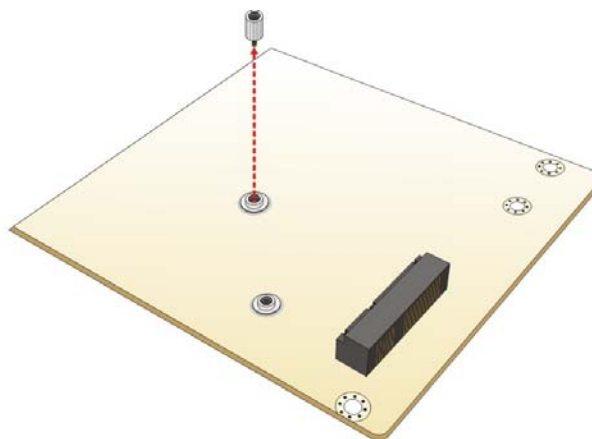

Figure 4-7: Removing the Standoff
Step 3: Remove the standoff. Unscrew and remove the standoff secured on the motherboard as shown in Figure 4-7.